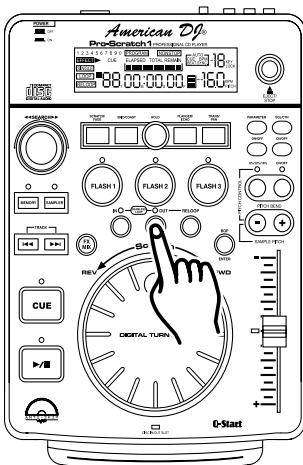

Figure 26
2) Press the **MEMORY BUCKET (7)**. The **MEMORY CUE BUTTON (1)** Red LED will glow indicating memory is ready to be stored.
3) Select one of the three **FLASH BUTTON (6)** you wish to store your loop in and press that button.
4) The red **MEMORY BUCKET (7)** LED will turn off, when your sample is locked into memory.
5) At this point your sample has been stored into memory. The original loop you used to create the sample will remain playing until the **OUT BUTTON (18)** is pressed (Figure 26).
6) Your sample can now be recalled at any time even when the unit is in PAUSE MODE. To recall the sample be sure the sample function is on, by pressing the **SAMPLE BUTTON (8)** until the red sample button LED turns on. To play your sample in a continuous loop leave the sample function on. To play your sample just once, turn the sample function off immediately after initiating your sample. With the sample function on the sample will continue to play until the sample function is turned off.